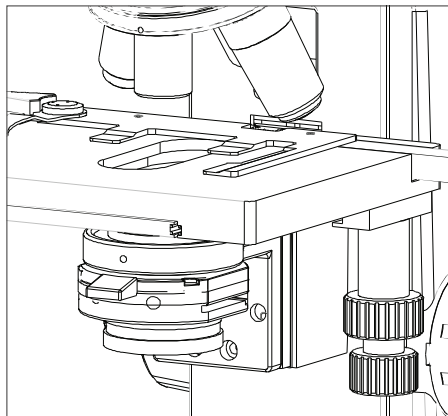

Fig. 10
3. Fix the polarizer by tightening the screw provided. Refer figure. 10.